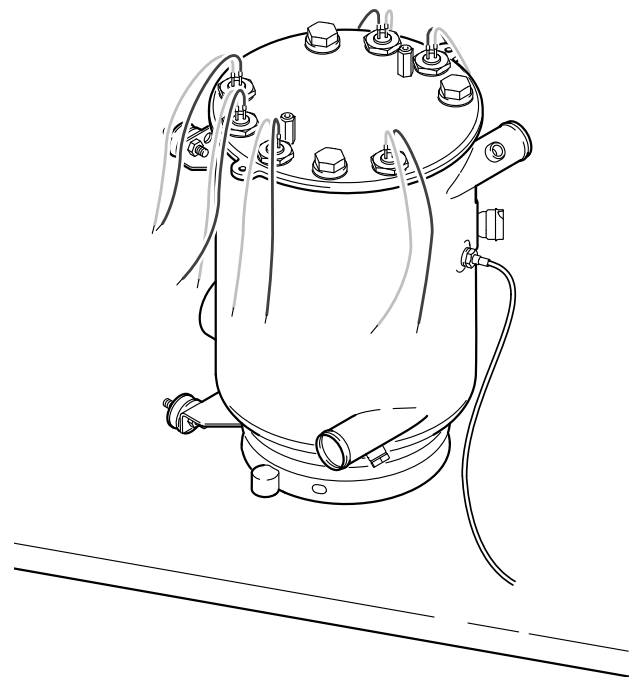

Fig. 804
3. Place heat exchanger into a vertical mounting position (see Fig. 804).